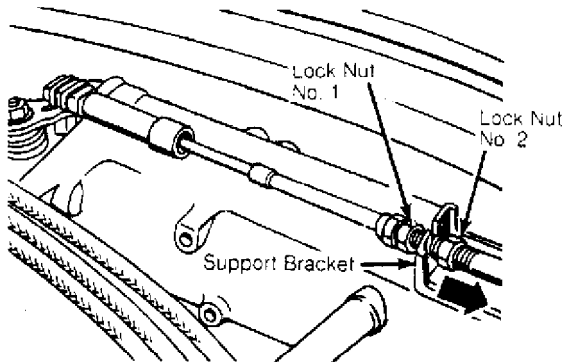

Fig. 3: Adjusting Throttle Cable (Model 010 Transmission)
2) Loosen lock nuts on throttle cable support bracket. Push throttle cable sleeve in direction of arrow until there is no play. See Fig. 3.